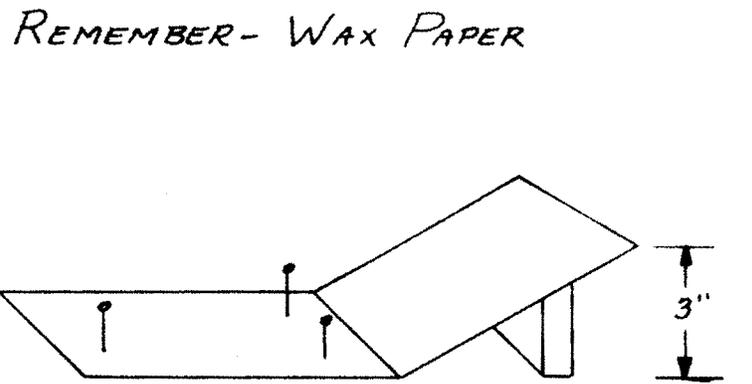

FIG 4
3. Fasten one of the wings on a flat board (over a piece of wax paper) with pins. Put glue on the other wing and butt up against the wing on the board. Put some support under this wing and measure the tip of the wing so that it is 3 inches. Allow to set overnight for maximum strength. (Fig. 4)